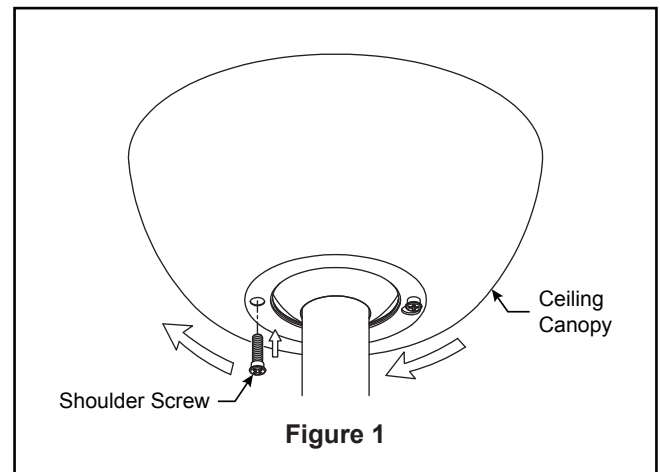

Figure 1
1. Assemble canopy by rotating key slot in canopy over shoulder screw in hanger bracket, taking care not to pinch the wires. Fully assemble and tighten second shoulder screw that was previously removed, then tighten another shoulder screw. (Figure 1)
1. Lay the blade holder on a flat surface with the inside of the blade holder facing up. This is the side with the threaded posts and pitched foot. Position the blade over the blade holder with the threaded posts showing. Make sure the bottom edge of the blade is fully seated against the blade holder. Place the blade holder cover on top of the blade, positioning the holes over the threaded posts. With a phillips screwdriver, thread the both 3/16"-24 phillips head screws into the posts but do not fully tighten. Prior to final tightening, position the centerline of the blade holder with the center of the end of the blade. Tighten both screws to secure the blade. (Figure 1)